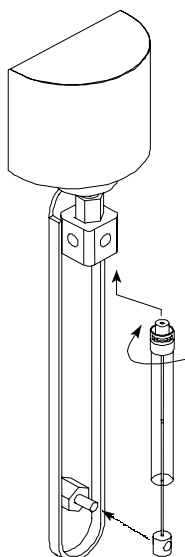

Fig. 7. Replacing the syringe
4. Pull the bottom of the syringe towards you; you can now remove the syringe (refer to Fig. 7).